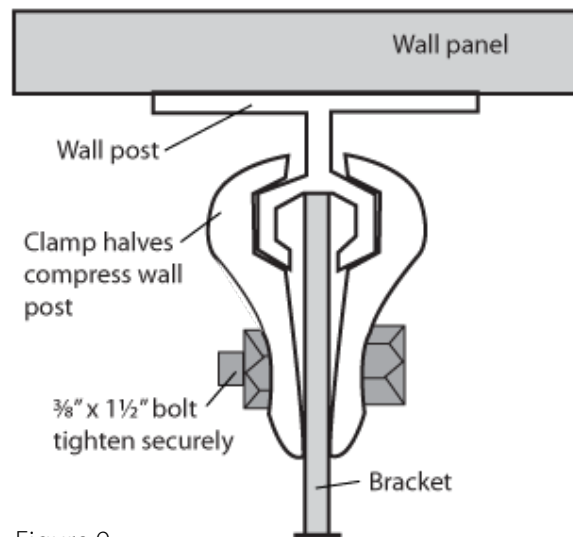

Figure 9:
- B. Position cross members within vertical channel slots with the ball bearing side facing up and the open side facing to the rear. Install clamp halves and hardware and tighten when cross member is level and at desired height. See Figure 9 and 10.
*See Figure 9 on pg 5.*